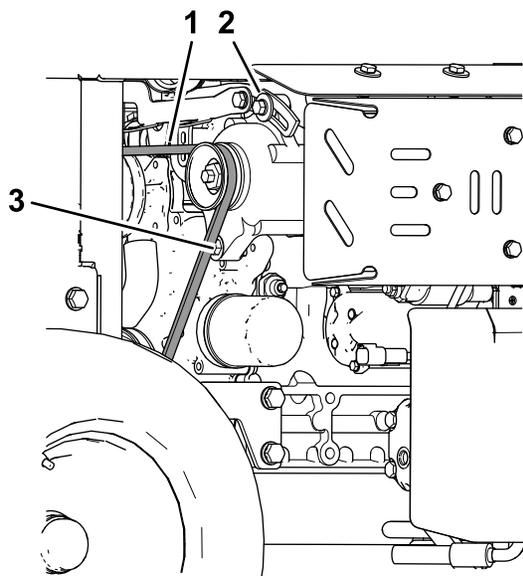

Figure 77
4. Loosen the alternator pivot bolt and lock bolt (Figure 77).
6. Tighten the alternator lock bolt (Figure 77).
7. Tighten the alternator pivot bolt (Figure 77).